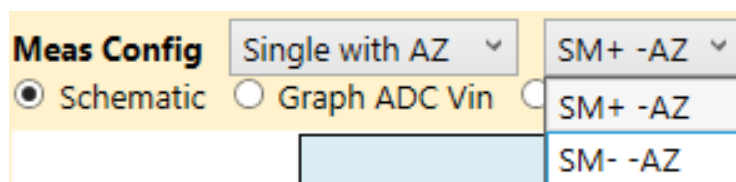

Figure 72. Meas Config: Single AZ
- Single with AZ: single measurement with AZ (see Figure 72)